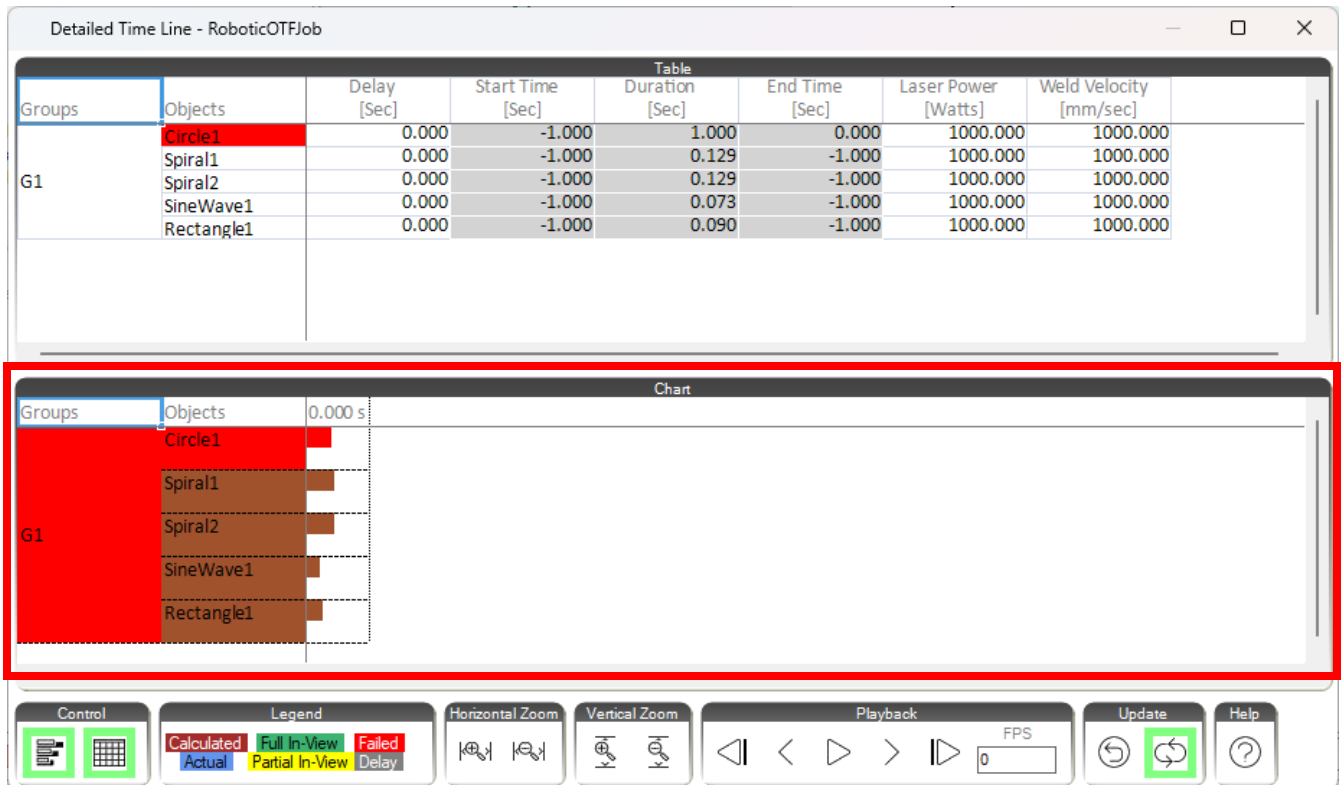

Figure 352: Timeline Graph
- **Timeline Graph** - This outlines detailed process object timings. This allows users to efficiently adjust parameters to develop the process. See Figure 352 (below).